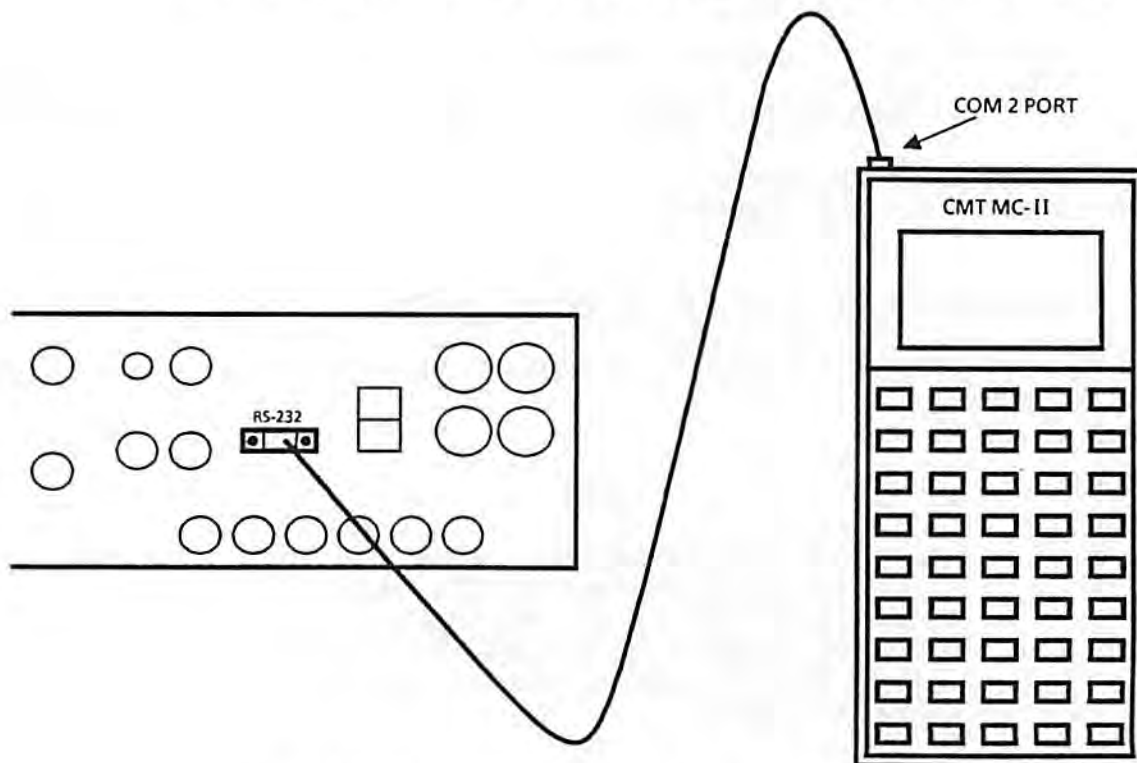

Figure A-1. Connecting the CMT MC-II to the WJ-9546
2. Connect the 9-pin D-type connector of the Controller Cable Assembly (WJ P/N 382228) to the WJ-9546 at the front panel RS-232 connector (J4). See **Figure A-1**. Hand tighten the connector retaining screws.